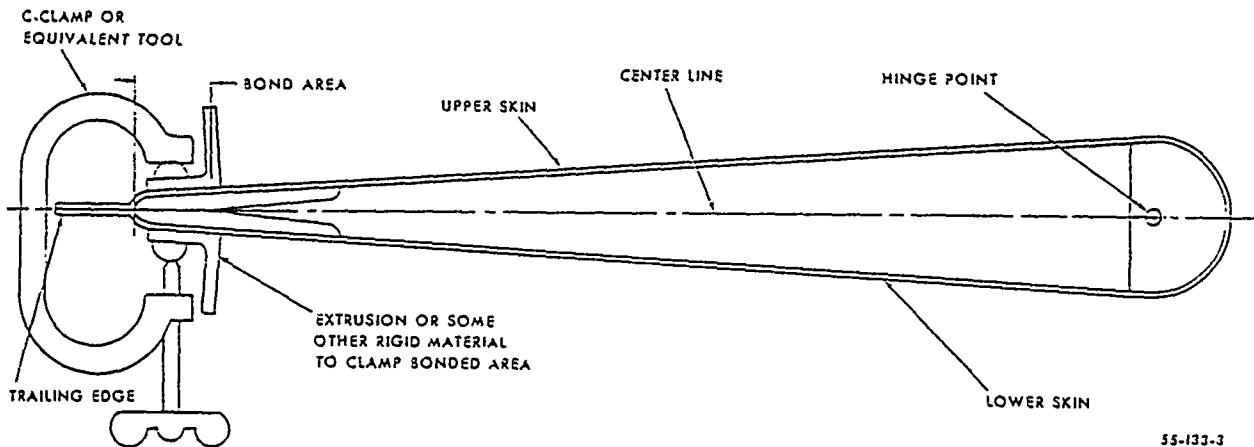

Figure 4-3A. Elevator Skin Replacement
- b. A tool to be used for clamping the trailing edge of the elevator while the bonding material is curing. (See Figure 4-3A.) This tool should also be capable of holding the trailing edge straight.
EXTREME CAUTION must be exercised throughout the assembly procedure. The replacement skin must be fit so that the trailing edge is perfectly straight from the inboard end to the outboard end. The center line of the trailing edge must be on the same center line as the hinges. (See Figure 4-3A.)
u. Use a clamping device (see Figure 4-3A) and clamp the bonded area of the elevator.